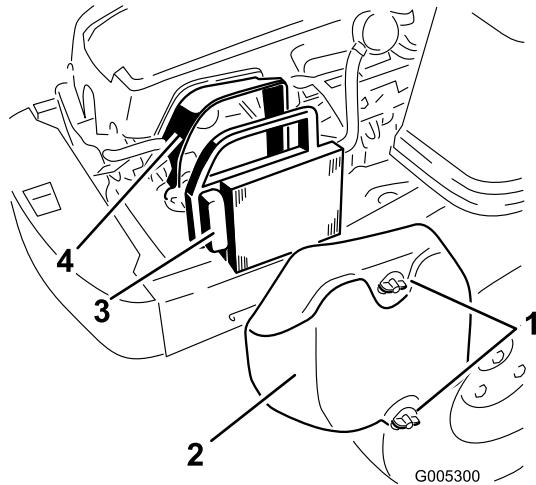

Figure 21
1. Remove the air cleaner cover (Figure 21).
2. Remove the air cleaner element with the integral rubber seal (Figure 21).
- Install the air cleaner element with the pleated side “out” and seat the rubber seal onto the edges of the air cleaner base (Figure 21).
- Reinstall the air cleaner cover and secure with the two knobs (Figure 21).